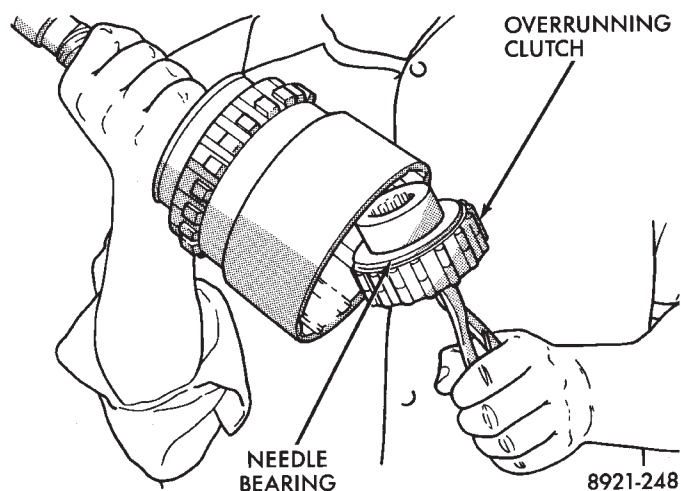

Fig. 27 Removing Overrunning Clutch Assembly
(17) Remove overrunning clutch assembly with expanding type snap ring pliers (Fig. 27). Insert pliers into clutch hub. Expand pliers to grip hub splines and remove clutch with counterclockwise, twisting motion.